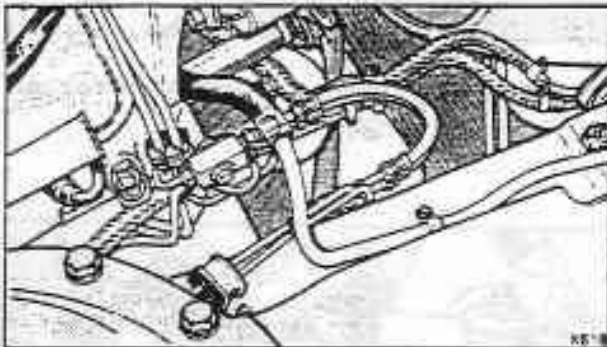
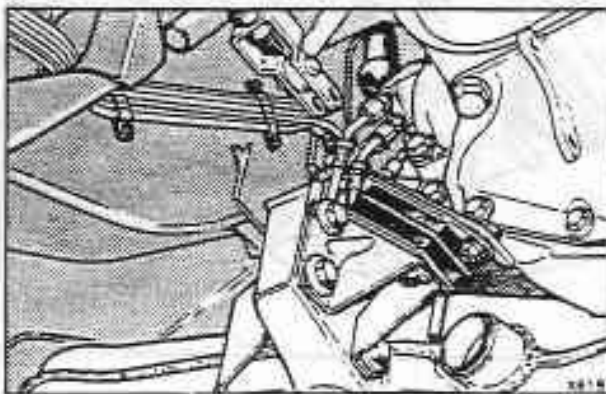

Fig. E12-4 Hydraulic accumulator to body hoses (other than turbocharged engines)
Fig. E12-5 Hydraulic accumulator to body hoses (turbocharged engines)
28. Disconnect the accumulator to body hoses (see fig. E12-4). On Mulsanne Turbo cars, these hoses are situated on the left-hand side of the engine compartment (see fig. E12-5).